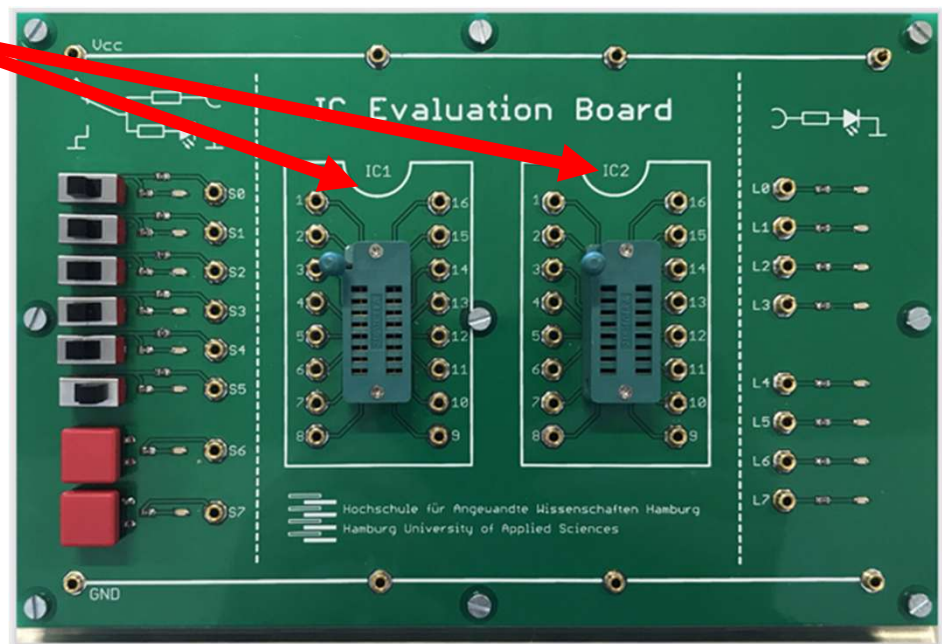
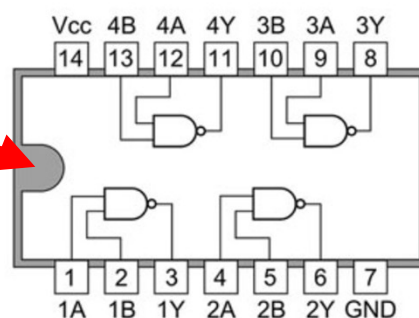

Fig. 2: Evaluation Board
Fig. 3: Pin assignment of a 7400 device
- Build the "Lamp-part" of the room controller with 2-input NAND gates (Fig. 3) only using the Evaluation Board (Fig. 2).